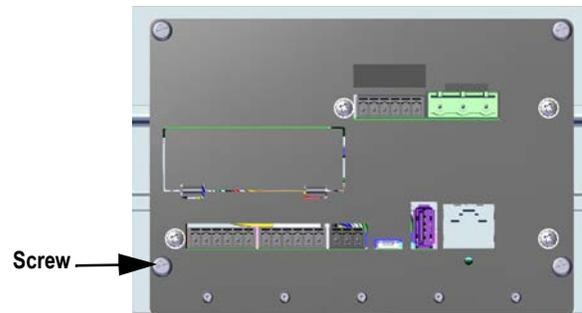

Figure 1. Bottom Plate Screw
1. Remove the screw highlighted in Figure 1.